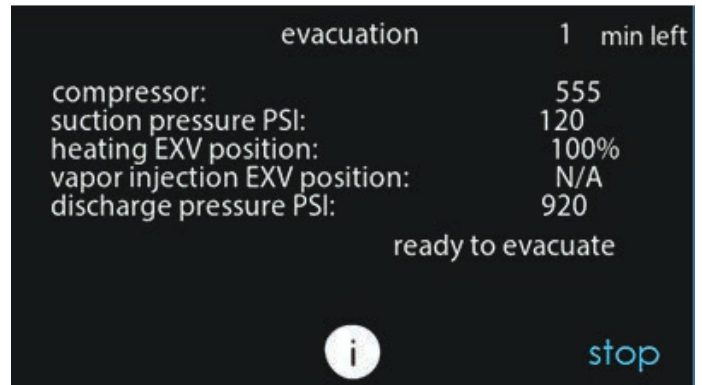

Fig. 29 – Evacuation Status Screen
5. Begin evacuation or refrigerant recovery as required for the procedure after Infinity® System Control indicates the EXV is open. Power may be removed from heat pump after the Infinity® System Control indicates "READY TO EVACUATE." See Fig. 29.